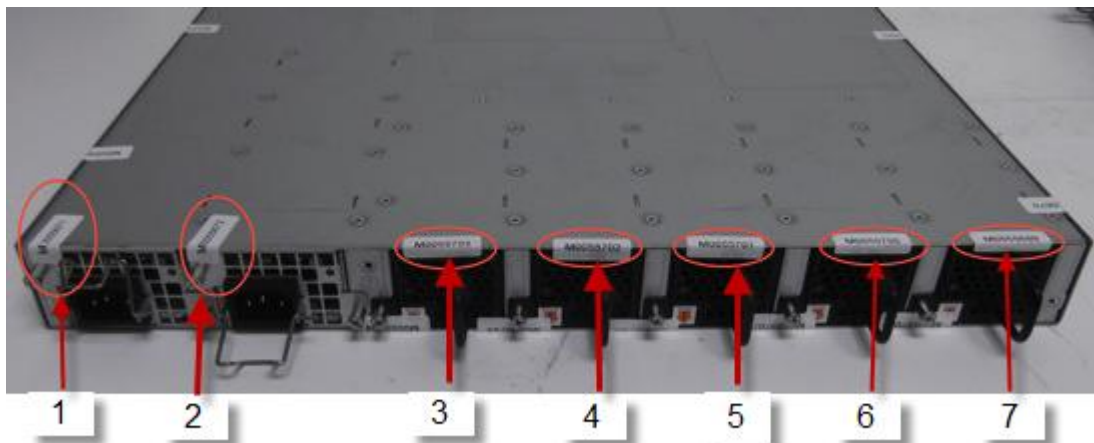

Figure 9. Brocade VDX 6740T bottom non-port-side fan and power supply seal locations
4. **Bottom non-port-side:** Apply seven (7) seals to bottom non-port-side fan and power supply of the chassis. Seals 1 and 2 must wrap across a 90-degree angle from the bottom of the chassis to just above the captive screw on each power supply assembly. Seals 3-7 must wrap across a 90-degree angle from the bottom of the chassis and along the front of each fan assembly. Refer to **Figure 9** on details on how to position each seal.